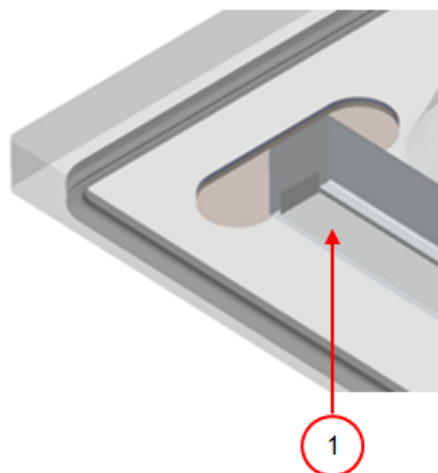

Figure 16: Replacing the Silicone Rubber of the Silicone Holders
1. Pull the old silicone rubber from the holder, see *Figure 16: Replacing the Silicone Rubber of the Silicone Holders* on page 35.